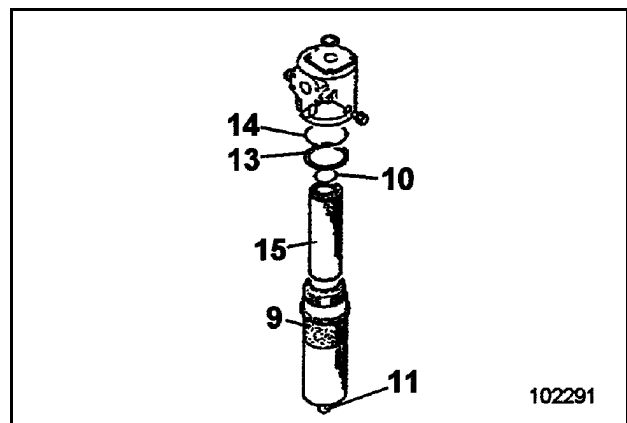

Fig. 3-57:
- Unscrew drain plug (11, Fig. 3-57:) and drain the hydraulic oil from the filter housing (9). (Place a suitable recipient under the filter housing).
- Unscrew filter housing (9).
- Disengage filter element (15) with a slight turn from its retaining catch and withdraw from filter housing (9).
- Clean filter element (15) in white spirit or paraffin oil.
- Replace filter element (15) if it is damaged.
- Clean filter housing (9, Fig. 3-57:) and the sealing faces at the filter head with white spirit or paraffin oil.
- Insert new filter element into filter housing (9) and refit to the filter head with new, lightly oiled sealing rings (10 and 14) and a new retaining ring (13).